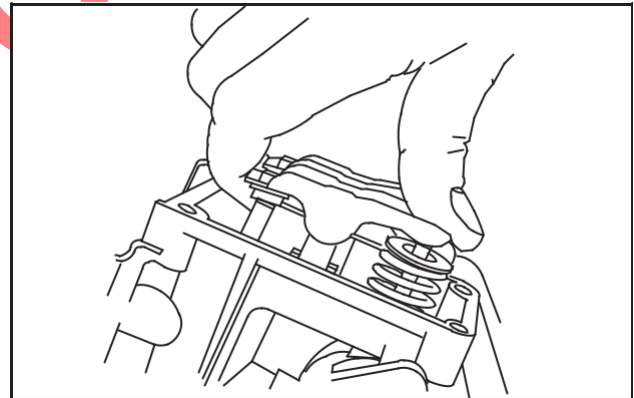

Fig. 16 – Insert Push Rods
4. Compress valve springs and insert push rods into recess in rocker arm adjustment screws, Fig. 16.